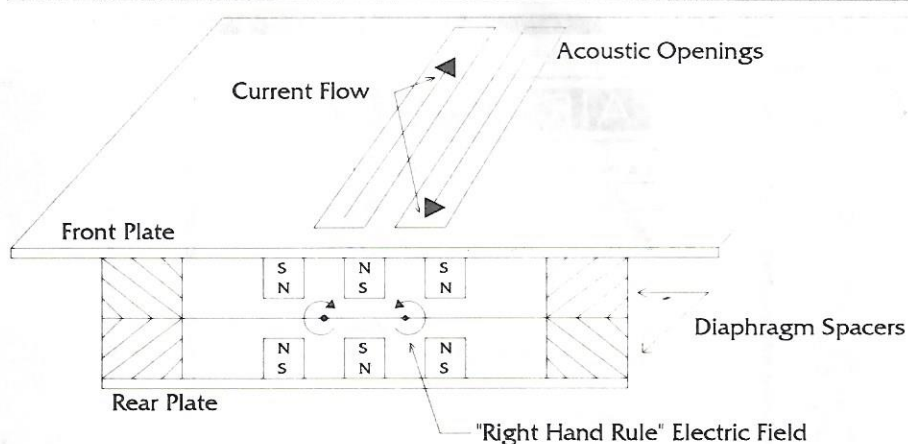
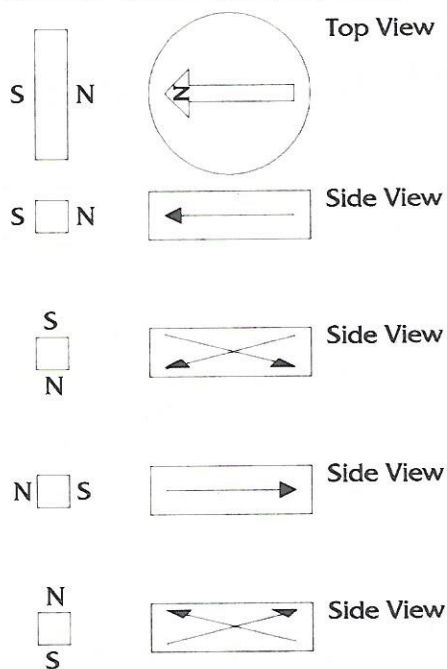

FIGURE 2: Cross section.
FIGURE 4: Magnet pole orientation.
Figure 2 shows a cross section of the plate assembly. Once you bolt this structure together, it is very rigid, not flexing at all. This keeps the magnets in place and prevents them from breaking off. The diaphragm spacers are made with 7/16" x 1" wood. I plan to make these spacers out of aluminum for even greater strength.
Powerful magnets and their proper alignment are paramount to achieving high sensitivity. I arranged the magnets in this structure in a push/pull fashion (Fig. 2). Remember the "right-hand rule" when arranging the magnets in relation to current flow of the conductor. Some magnetic properties are listed in Table 2.
To make sure all the magnets are correctly oriented, I used my trusty Boy Scout compass to determine the poles of the magnets, which must be polarized along their lengths with the poles perpendicular to the speaker diaphragm (Fig. 2). When arranging the magnetic structure, I had trouble gluing the magnets correctly. I suggest arranging all the magnets for proper orientation *before* starting the gluing process. Figure 4 shows my procedure to determine the poles of each magnet.
1. Glue the magnets to the metal plates. As shown in *Fig. 4*, find the poles of all the magnets you are going to use. It's best to line up all the magnets on the sides of the plate and hold a magnet above the rows to ensure the magnetic field is the same for the full row of magnets. Arrange the rows of magnets so when the front and rear plates are assembled, the faces of each row have the same pole (*Fig. 2*). It is paramount to follow the "alternating pattern," which keeps all of the diaphragm moving in the same direction.